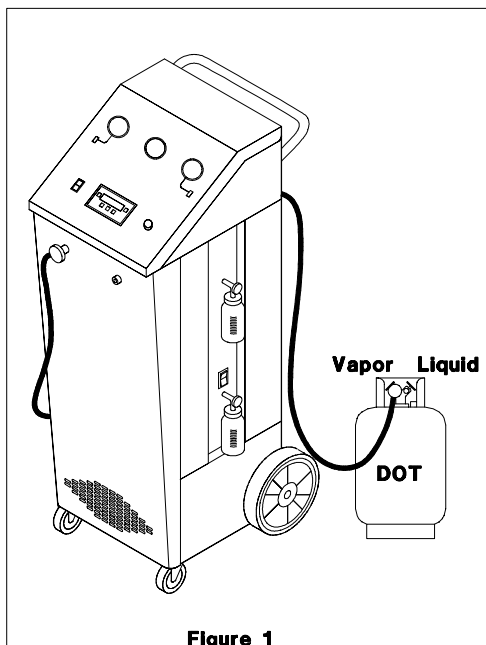

Figure 1
1. Refer to Figure 1 and set up the RHS780 as shown.